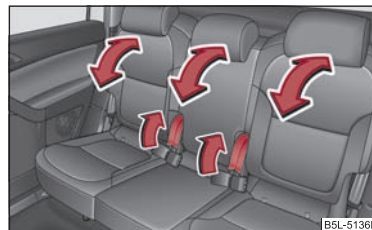

Fig. 61 Adjusting the seat backrest
- Pull the lever ⇒ fig. 61 and adjust the desired angle of the seat backrest. ■
- Pull on the levers ⇒ page 74, fig. 61 and fold the seat backrests of the rear exterior seats onto the seat cushion as far as the stop.
- Fold the middle rear seat backrest forwards in the same way, then pull once more on the lever ⇒ page 74, fig. 61 and press the seat backrest downwards until it is heard to lock into a lower position.